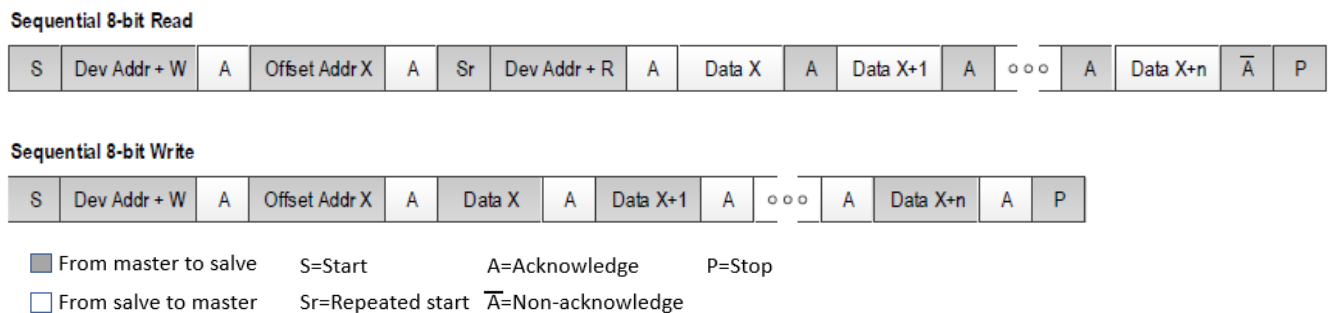

Figure 1. I2C 1-Byte Offset Mode Slave Sequencing
- The 1-byte offset mode – It also called page mode where part of the address offset is provided in each transaction and another part comes from an internal page register in each serial port. For an I2C 1-byte offset mode operation example, see Figure 1.
The I2C slave protocol complies with the *I2C Specification*, version UM10204 Rev.6, 4 April 2014. The SCL_SCLK and SDA_nCS pins are not 3.3V tolerant. The Dev Addr shown in the Figure 1 represents the I2C bus address that the device will respond to. This 7-bit value in the `i2c_addr` register field defaults to 0x09 if not programmed via the OTP load.